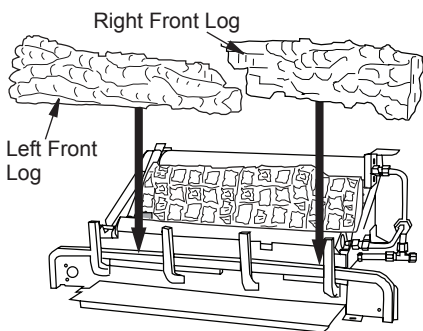

Figure 39 - Installing Left/Right Front Logs
3. Place front left (18" D-064, 24" D-057 & 30" D-038) and front right (18" D-065, 24" D-058 & 30" D-039) logs as shown in Figure 39.